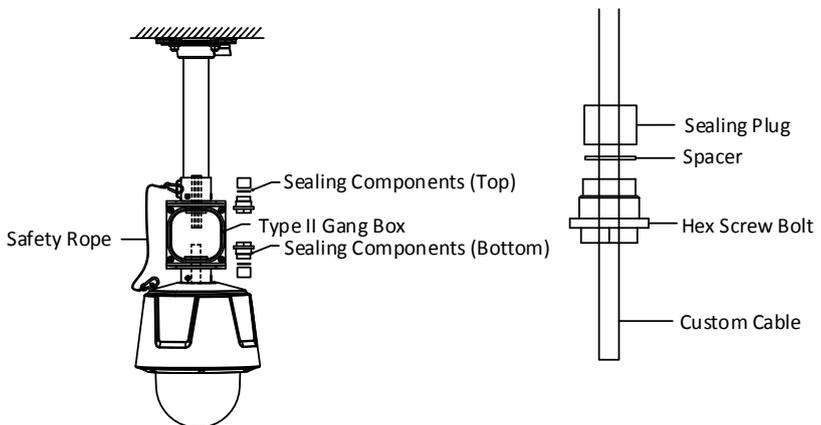

Figure 2-34 Assemble the Type II Gang Box with the Speed Dome
- 7) Insert the sealing components into the gang box in order, as shown in Figure 2-34.